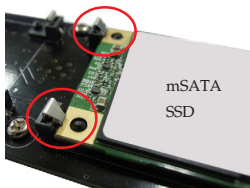

Figure 3b
2. Gently push the bottom of the mSATA SSD down until it snaps into the slot. Make sure the mSATA SSD is secured by the holding buckles. Repeat steps 1 and 2 for the 2nd mSATA SSD, if needed. See **Figure 3b**.